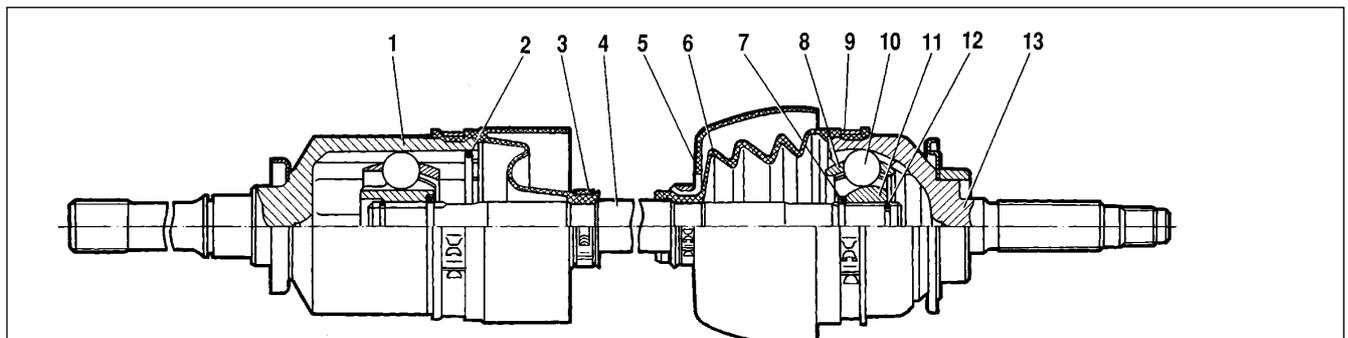

Fig. 3-82. Front wheel drive:
Torque from the front axle is transferred to the front wheels through the right and left drives, each consisting of shaft 4 (fig. 3-82) and two CV-joints.
- undo clip 9 (see fig. 3-82), remove it from boot 6 and move the shroud with the boot on the shaft to provide access to joint race 11;
- before striking the shaft 4 (see fig. 3-82) to connect it with the inner race 11, it is necessary to fit a new circlip 12 strictly in the centre, and then sharply strike downward on the shaft end; the circlip will compress and slip through the race spline opening;